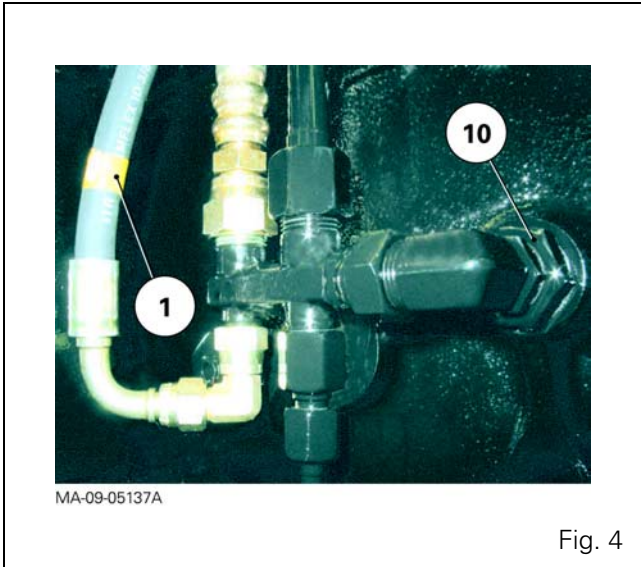

Fig. 4
The lubricating pressure is maintained by a valve (10) calibrated to 1.5 bar and fitted on the front left-hand side of the gearbox (Fig. 4).
REMINDER : Only unassisted master cylinders receive booster pressure from the hose (1) connected upstream to the 1.5 bar valve (10) (Fig. 4).